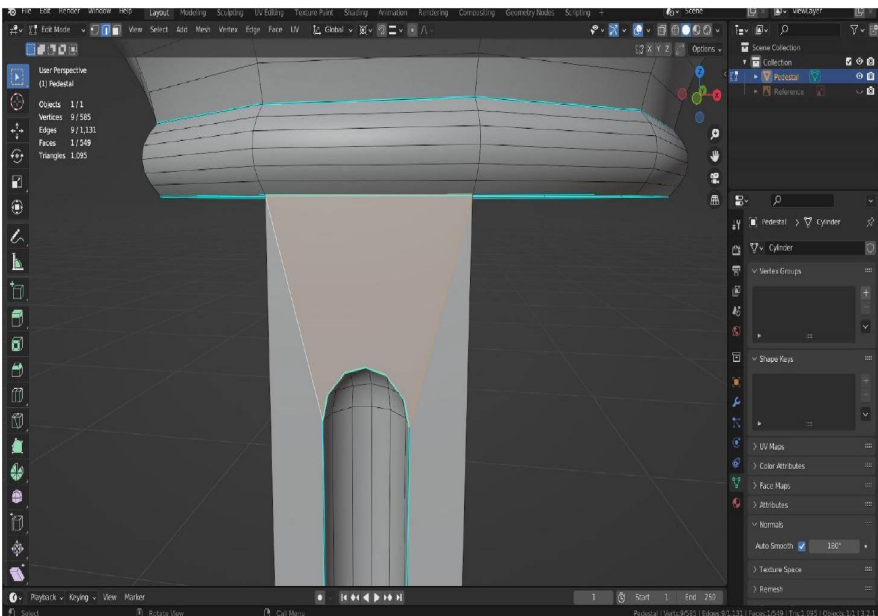

Figure 4.35: Ngon filling the space above the elongated capsule, between two new faces on the sides
25. For the next step, it will help to zoom in to the remaining space between the top of the elongated hemisphere and the cylinder, then left-click select a single edge at the top of one of the new side faces, then press and hold **Ctrl** + left-click the opposite edge at the top of the other new side face, until the whole edge along the top of the hemisphere is selected, then press **F** to fill the gap as shown in *Figure 4.35*: